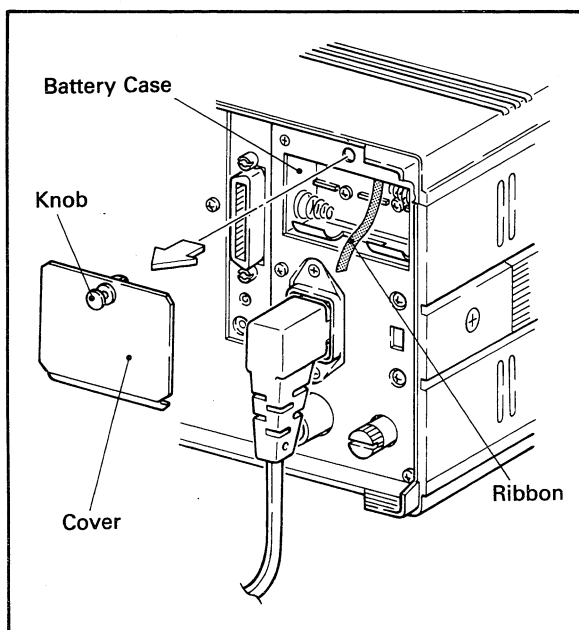

Figure 2-2.
1) On the instrument, "panel setting information protective dry cells" are installed for backup of setting information in case of a power failure or when the power switch is turned OFF. The battery is housed at the upper right corner on the rear of the mainframe as depicted in Figure 2-2.
2) By pulling the knob located at the upper middle of the battery cover shown in Figure 2-2, the cover is unlocked and can be taken out of the mainframe.